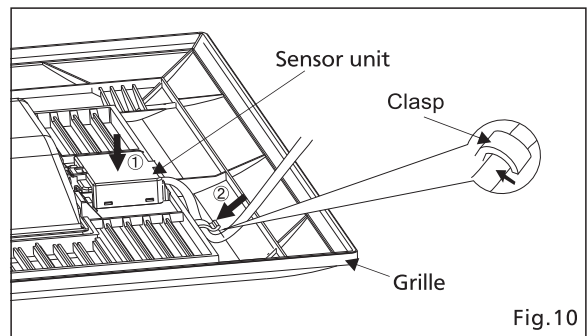

Fig.10
12. Insert the sensor unit into slot of the grille ; Fix the lead wire of sensor unit into the clasp (1 position). (Fig.10)